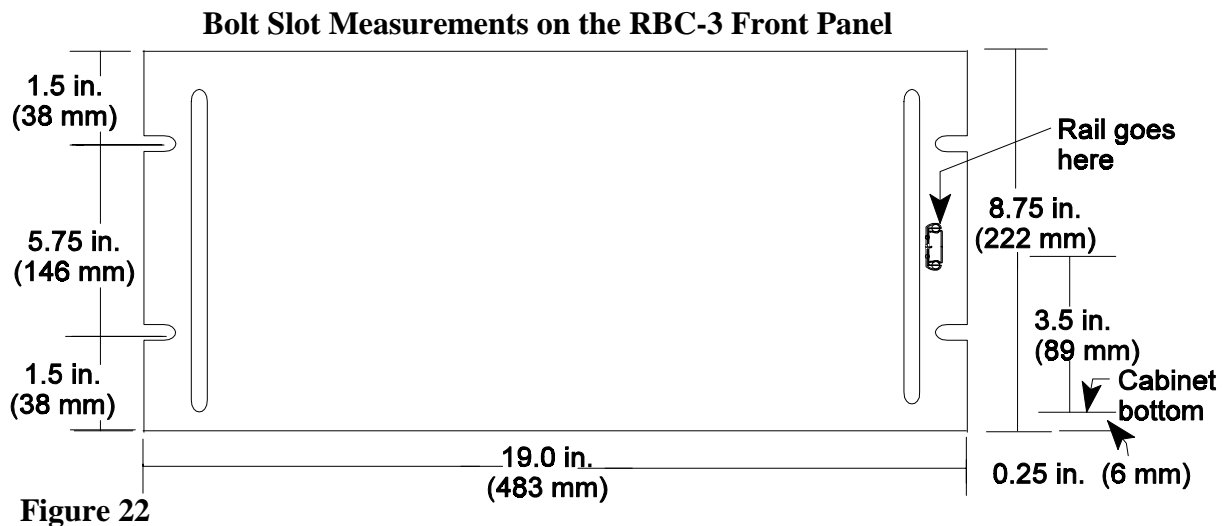

Figure 22
- ▶ To make sure that the bolt slots on the front panel of your battery cabinet will line up with holes on the rack, use the slot measurements in Figure 22 on the next page to decide where to attach the outer rails to the rack.